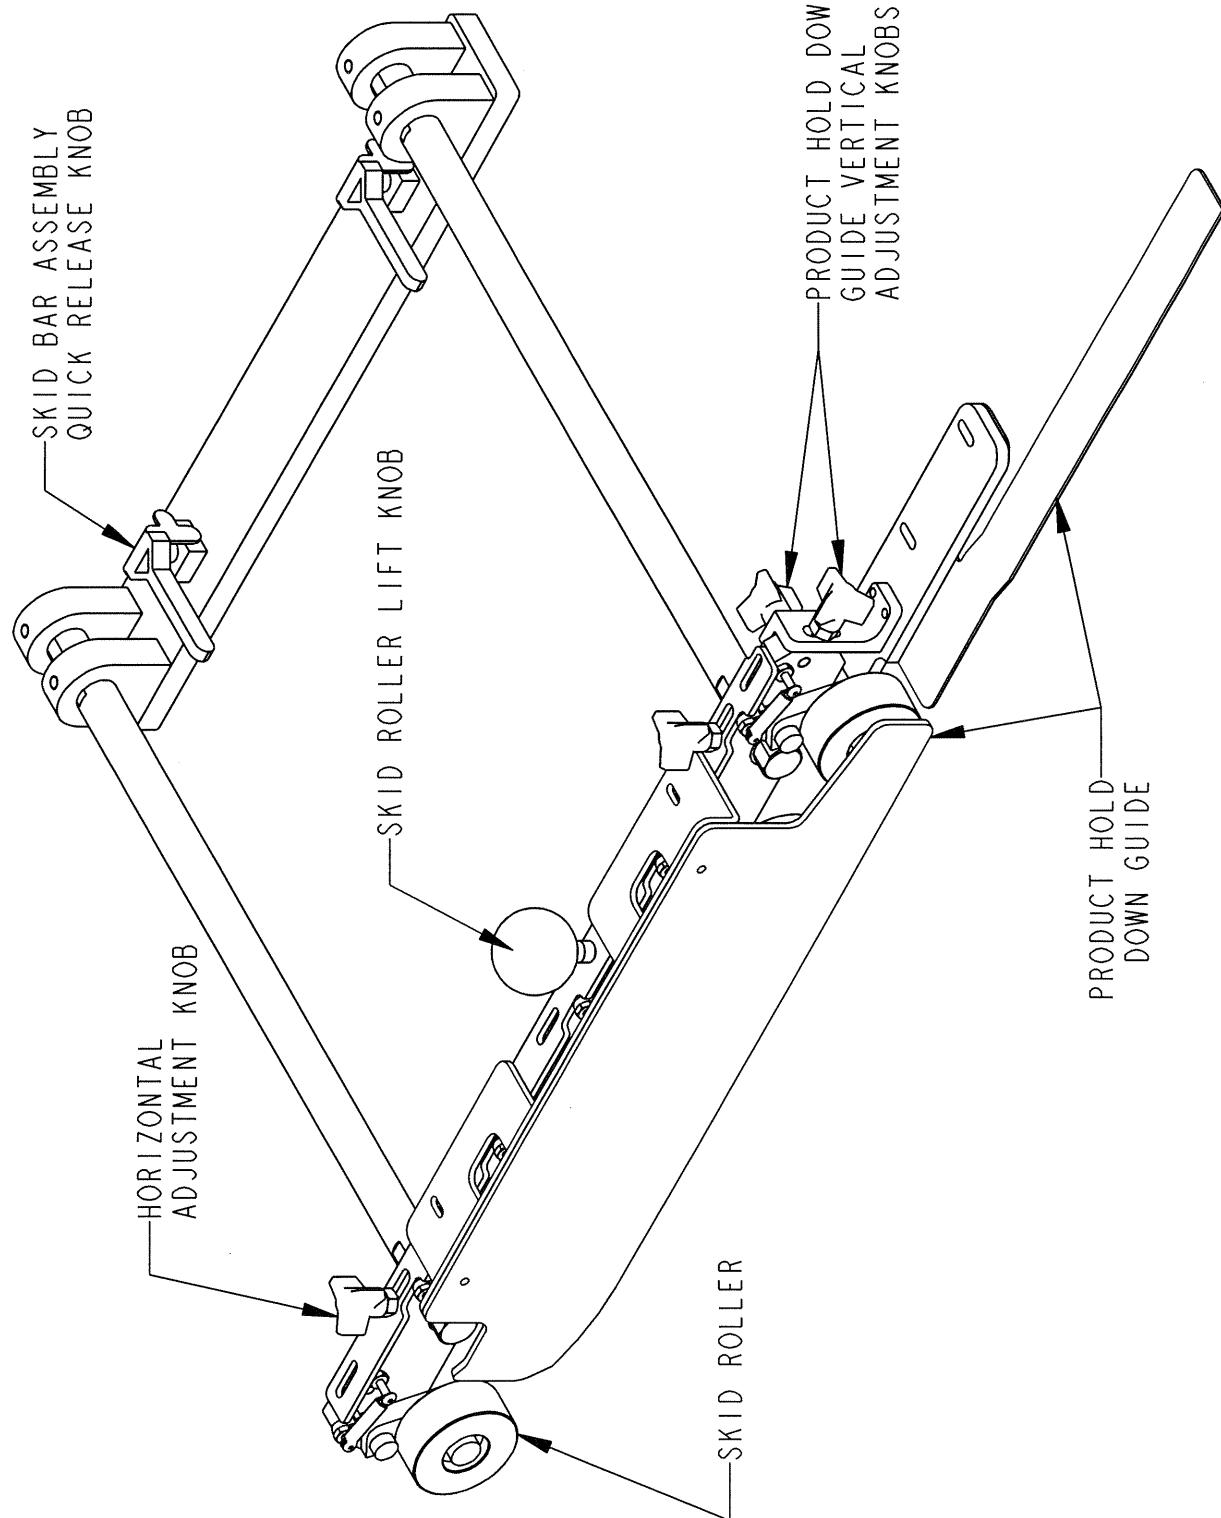

FIGURE 9.0
5.5 Skid Bar Component Descriptions (see Figure 9.0)
2. Loosen the horizontal product hold down guide height by using the product hold down guide vertical adjustment knobs. Fold two pieces of product in two and place one after another under the horizontal product hold down guides and tighten the vertical adjustment knobs to lock into place. **See Figure 9.0**